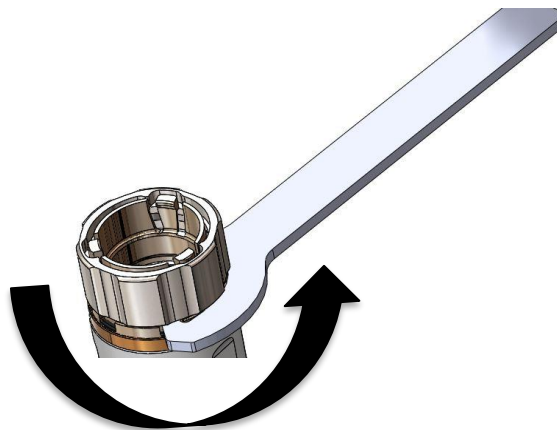

Figure 3: Turn spanner wrench to remove or replace QD insert with direct thread insert.
- (2) Use the spanner wrench provided to switch/ remove the direct thread or Quick Detach (QD) insert near the muzzle end (figure 3). **ALWAYS** apply anti-seize before replacing either the direct thread, QD inserts, or endcap.
- (3) This suppressor is not user serviceable. The end caps can be removed though for optimum cleaning. We recommend cleaning with an ultrasonic cleaner or Slip 2000 Carbon Killer.
- (4) After finished cleaning, apply anti-seize and then tighten end cap and muzzle insert (Direct or QD).